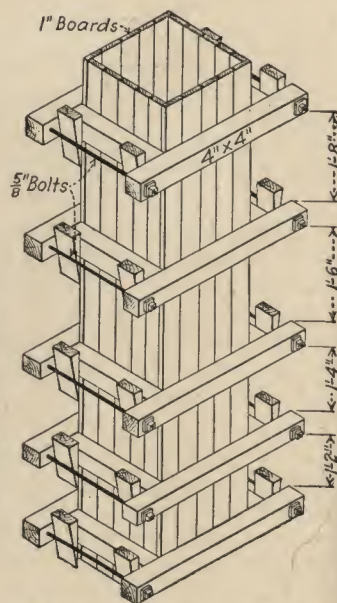

Fig. 17—Form for taller column which can be hoisted up and reset.
74. Larger, heavier columns, because of the great weight of the concrete on the bottom, must have heavier forms, as shown in Figure 17. These heavier forms have yokes of 4-inch-by-4-inch material, held together by bolts, and side pieces held in position by wedges.